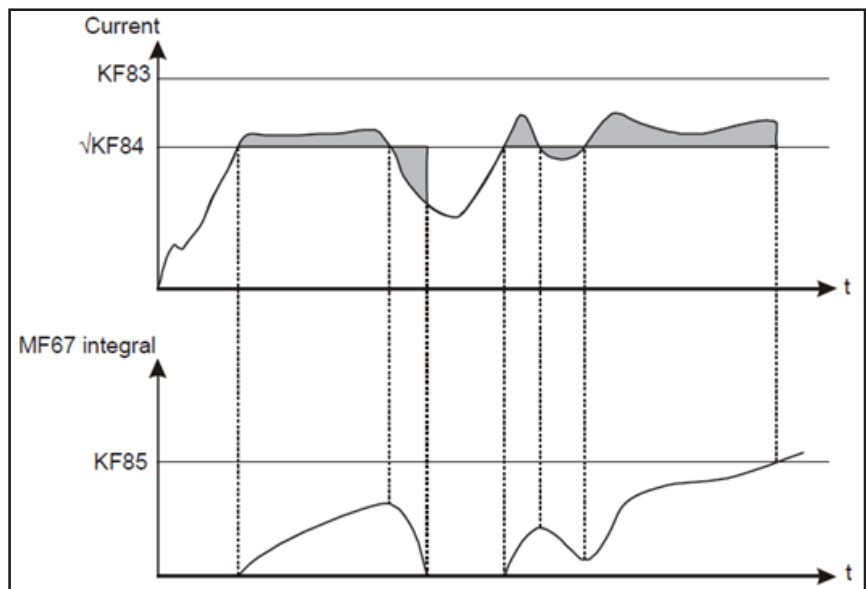

Figure 1 A value of KF84 is set, which is dependent on the model of the motor. If the current reaches its limit of KF85 — an  $I^2t$  error occurs.
**$I^2t$  values.** Within controls, the algorithms that monitor the current being used are referred to as an  $I^2t$  value. There are variations on how it is calculated depending on whose programs are used, but the principle is always the same.  $I^2t$  is an algorithm that is a function of time and current, so it uses the amount input into the motor over time and sets a limit on how much can be applied before overheating. To give an example of this, we'll take a look at the  $I^2t$  programming in Etel's AccurET control driver (Fig. 1).